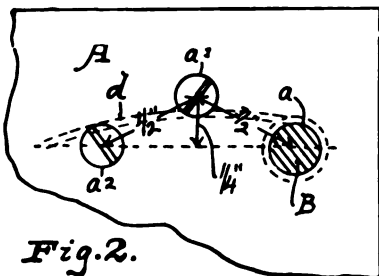

Fig. 2.
Get a hardwood board (A) about 12 in. long, 6 in. wide and $\frac{3}{8}$ in. thick. At one corner bore a hole (a, Fig. 2) of the size that the inside diameter of the spring is to be. Set two flathead screws (a' and a'') in the board in the positions in relation to the hole indicated in Fig. 2. At the opposite end of the board, near the upper cor-